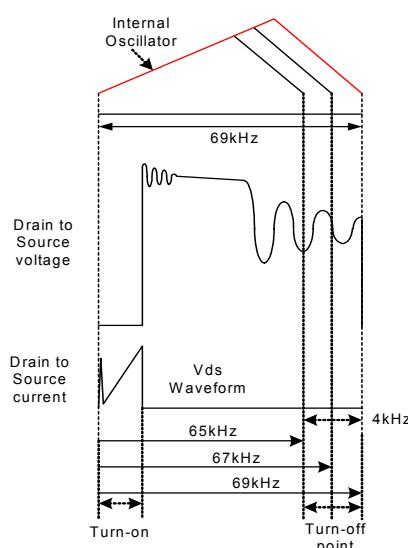

Figure 10. Frequency Modulation Waveform
**7. Frequency Modulation :** EMI reduction can be accomplished by modulating the switching frequency of a switched power supply. Frequency modulation can reduce EMI by spreading the energy over a wider frequency range than the band width measured by the EMI test equipment. The amount of EMI reduction is directly related to the depth of the reference frequency. As can be seen in Figure 10, the frequency changes from 65KHz to 69KHz in 4mS for the FSDM0365RNB. Frequency modulation allows the use of a cost effective inductor instead of an AC input mode choke to satisfy the requirements of world wide EMI limits.